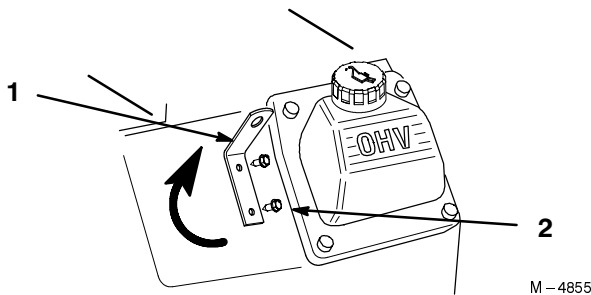

Figure 89
1. Locate on engine the lift hook in figure 89.